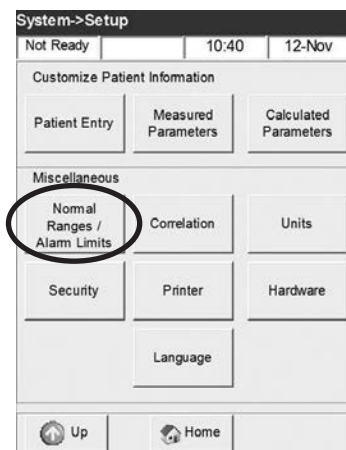

Fig. 3-14 Select Normal Ranges/ Alarm Limits
2. In the **<System Setup>** menu, in the **<Miscellaneous>** section, press **<Normal Ranges/Alarm Limits>** (Fig. 3-14).